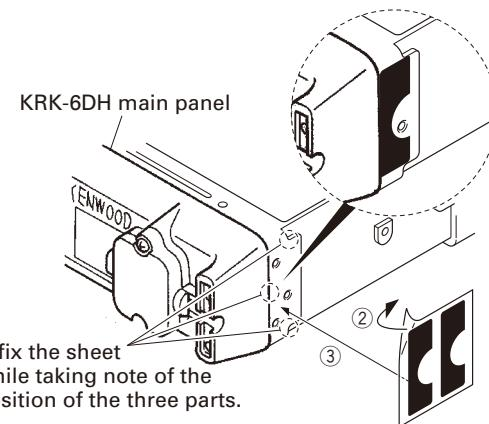

Fig. 2-1-2
4. Affixing the sheet (G11-4379-04) for waterproofing (Fig. 2-1-2).
- (1) Remove the cover paper of the sheet (②).
- (2) Affix the sheet while taking note of the position of the three parts as shown in Fig. 2-1-2 (③).
- (3) Repeat step (2) to affix the sheet to the other side of chassis.